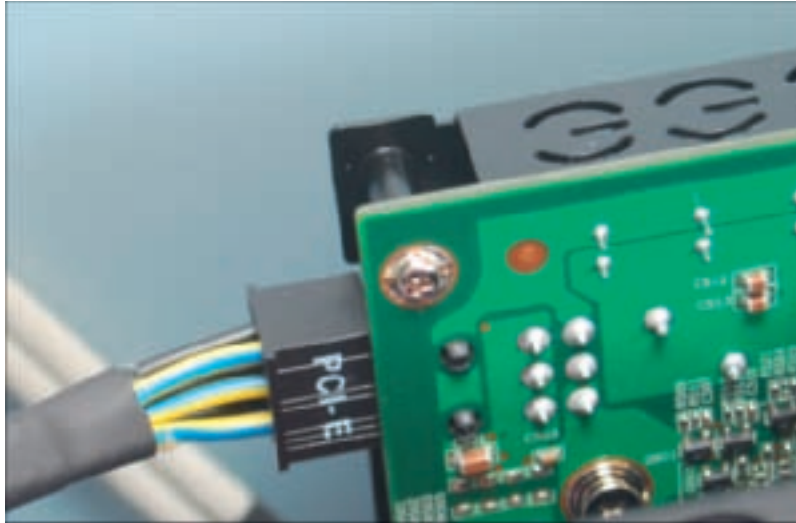

Figure 9-72 Connect a power cord to the PCIe power connector on the card
3. If the video card has a 6-pin or 8-pin PCIe power connector, connect a power cord from the power supply to the connector (see Figure 9-72). If the power supply does not have the right connector, you can buy an inexpensive adapter to convert a 4-pin Molex connector to a PCIe connector.